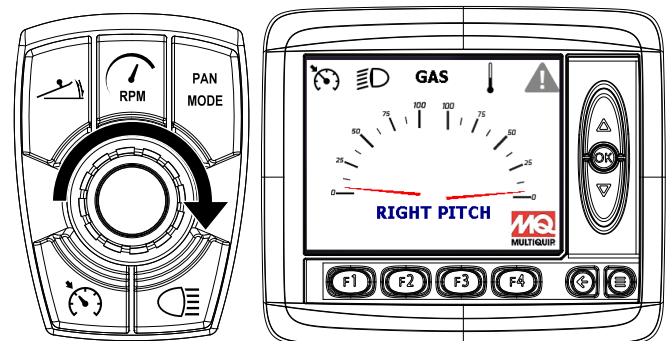

Figure 39. Blade Pitch Selection
9. Turn the **control knob** until the desired blade pitch is displayed (Figure 39).